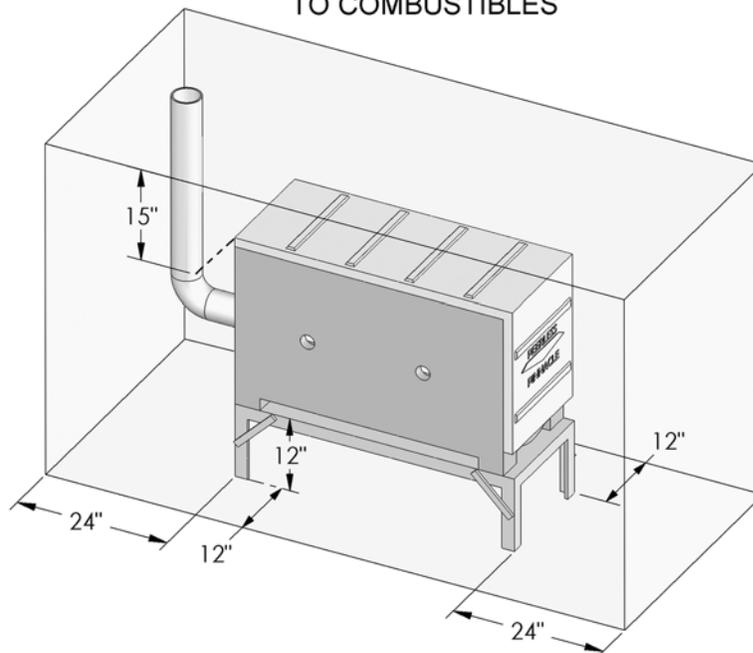

Figure 1.1
2. Refer to Figure 1.1 for the recommended clearance to allow for reasonable access to the boiler. Local codes or special conditions may require greater clearances.